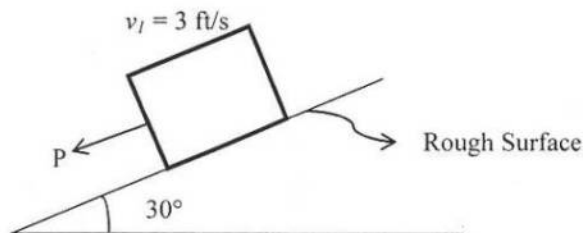

Figure 4
8) The 50-lb crate shown in Figure 4 is acted upon by a force having a variable magnitude $P = (20t)$ lb, where t is in seconds. Determine the crate's velocity 2 s after P has been applied. The initial velocity is $v_l = 3$ ft/s down the plane, and the coefficient of kinetic friction between the crate and the plane is $f_k = 0.3$.